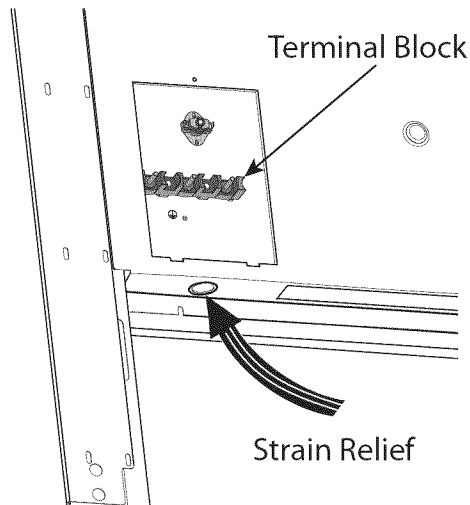

Figure 13: Strain Relief Location
3. Mount strain relief (not provided with range) into the 1" (25.4 mm) diameter hole in the back panel located below the terminal block (see *Figure 13*). Route wires up through strain relief.